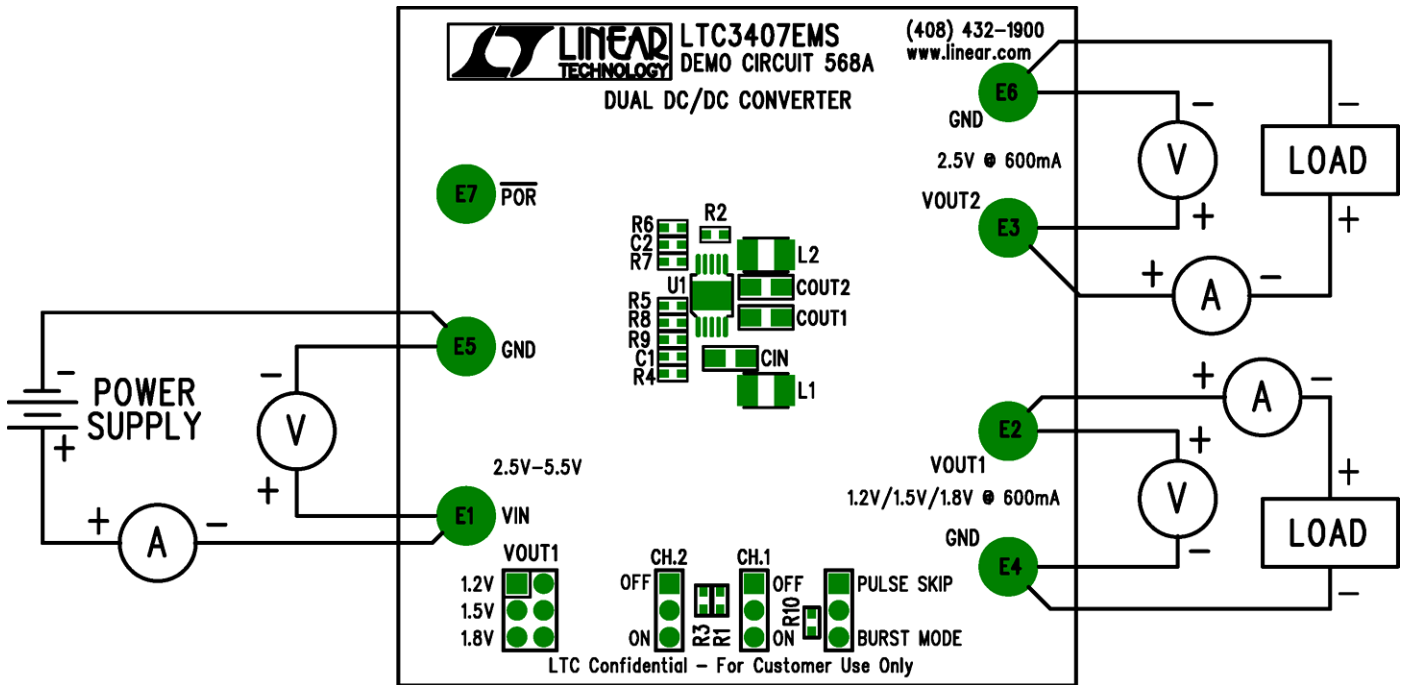

Figure 1. Proper Measurement Equipment Setup
Demonstration circuit 568 is easy to set up to evaluate the performance of the LTC3407. Refer to Figure 1 for proper measurement equipment setup and follow the procedure below:
1. Connect the input power supply to the  $V_{IN}$  and GND terminals on the left-side of the board. Do not hot-plug  $V_{IN}$  or increase  $V_{IN}$  over the rated maximum supply voltage of 5.5V, or the part may be damaged. Connect the loads between the  $V_{OUT}$  and GND terminals on the right-side of the board. Refer to figure 1 for the proper measurement equipment setup.